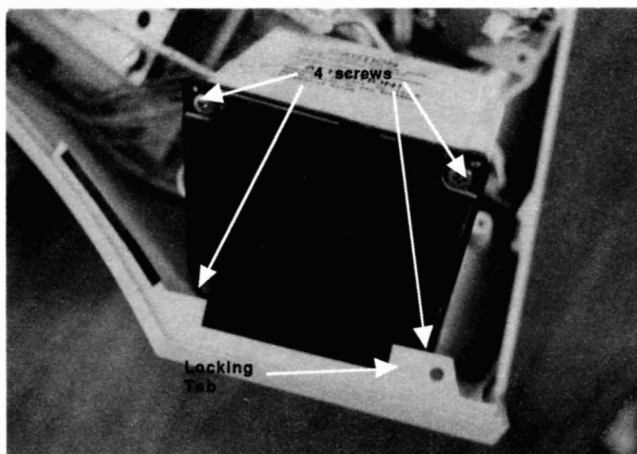

Figure 15
B. Tilt tweeter slightly back and out (from bottom of tweeter enclosure) to pull it away from the tab which secures it (Figure 15).
C. Remove the 4 screws which secure the tweeter to the box (Figure 15).
C. Secure the tweeter with 4 screws (Figure 15).
D. Replace the tweeter enclosure by tilting it slightly forward and under the tab on the plastic chassis (Figure 15).
F. Secure the PCB module by re-installing 4 screws (Figure 15).
C. Tilt tweeter enclosure slightly back and out (from bottom) to pull it away from tab which secures it (Figure 15).
D. Remove the 4 screws which secure the tweeter speaker to its enclosure (Figure 15).
D. Replace the tweeter enclosure by tilting it slightly forward and under the tab on the unit (Figure 15).